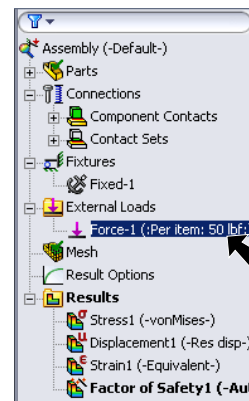

Fig. 19
Step 1. **Double click Force1** in the Simulation Study Tree to display the Force Property Manager, Fig. 19.